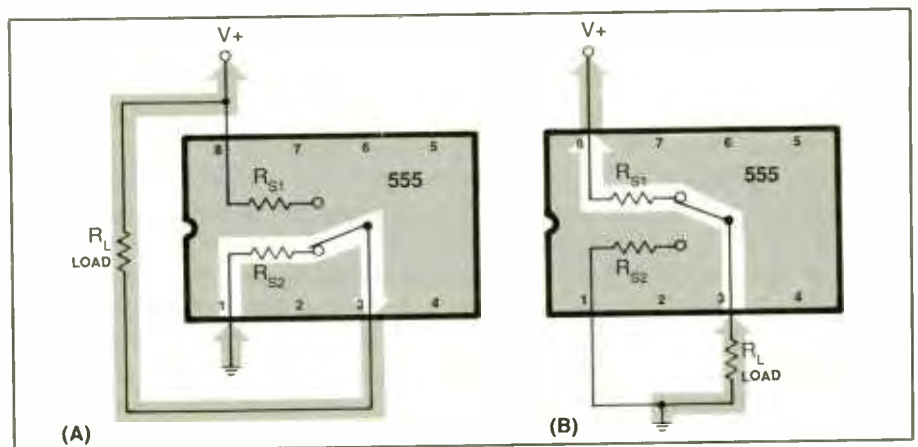

Fig. 2. Examples of a 555 used as (A) an output current sink and (B) an output current source.
on the configuration of the external load. Figure 2 illustrates both types of operation.
The arrangement shown in Fig. 2(A), in which external load R_L is connected between the 555 output and $V+$, allows current to flow in the load only when pin 3 is low. In this condition, the external load is grounded through pin 1 and small internal source resistance R_{S1} . In this arrangement, the 555 output is a current sink.
The circuit shown in Fig. 2(B) is for the case where the load is connected between pin 3 of the 555 and ground. When the output is low, the load current is zero. However, when the output is high, the load is connected to $V+$ through small internal resistance R_{S2} and pin 8. Here, the output is a current source.